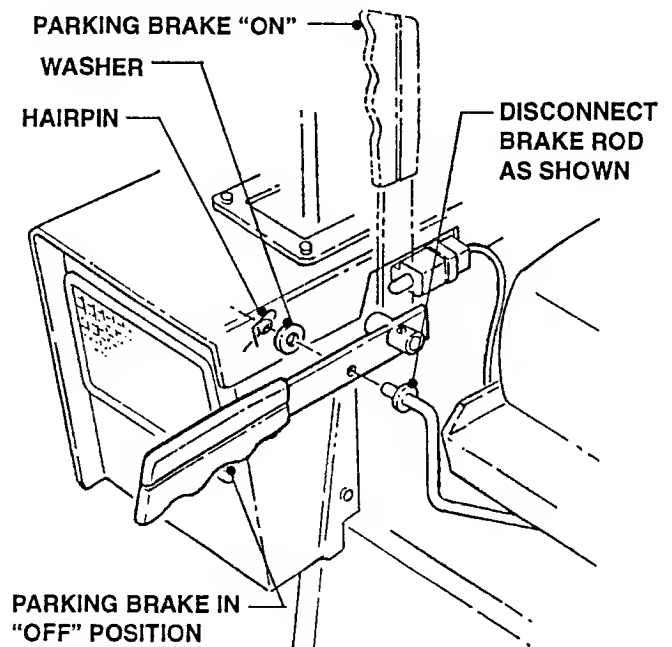

FIGURE 5.2
- c) Disconnect Brake Rod from Parking Brake. See Figure 5.2.